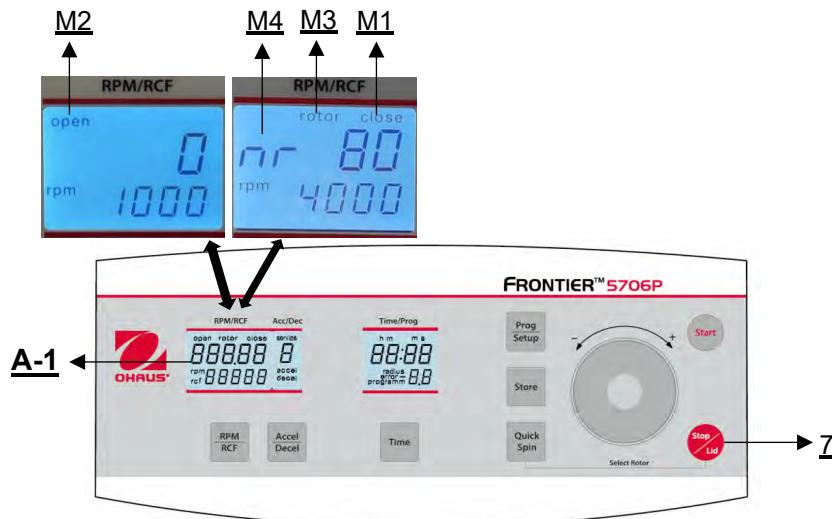

Figure 16
After the run, when the lid of the centrifuge remains closed, the word "close" (M1) will continue to appear in the display **"RPM | RCF"** (A-1). At the same time the actual rotor ID, e.g. "**nr 80**", is shown in the display (M4). As soon as the lid is released by pressing the key **"Stop | Lid"** (7), the word "open" (M2) appears. Now you can open the lid of the centrifuge. Please refer to **Figure 16** below for reference.
Please refer to **Figure 16** below for reference.